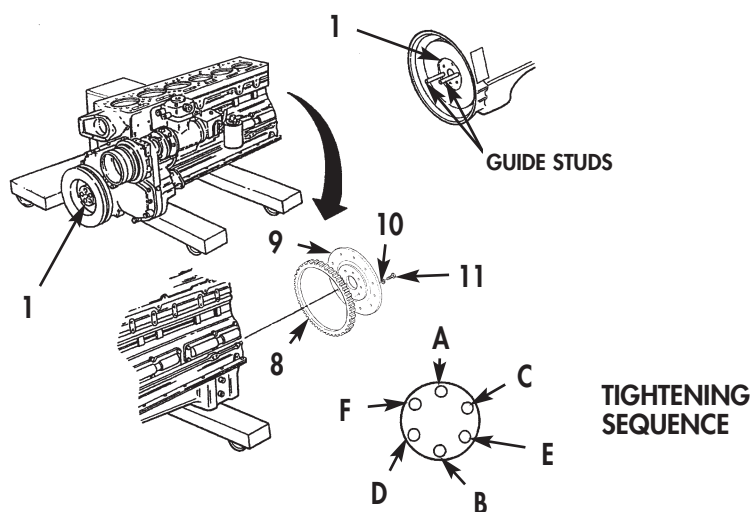

Figure 16. Flywheel Bolt Installation (Big Cam I).
23. Install two 5/8-18 x 6 in. guide studs in opposite holes on crankshaft (1) until fully seated.
24. Apply lubricating oil to threads of screws (11) and face of washers (10). Allow excess oil to drain from screw threads.
25. Install flywheel (9) and spacer gear (8) on crankshaft (1) with four screws (11) and washers (10). Tighten screws (11) hand-tight in sequence shown in figure 16.
26. Remove two 5/8-18 x 6 in. guide studs from crankshaft (1).
27. Install two remaining screws (11) and washers (10) on flywheel (9). Tighten screws (11) 70 lb-ft (95 N•m) then 140 lb-ft (190 N•m) and finally 200–220 lb-ft (271–298 N•m) in sequence shown in figure 16.